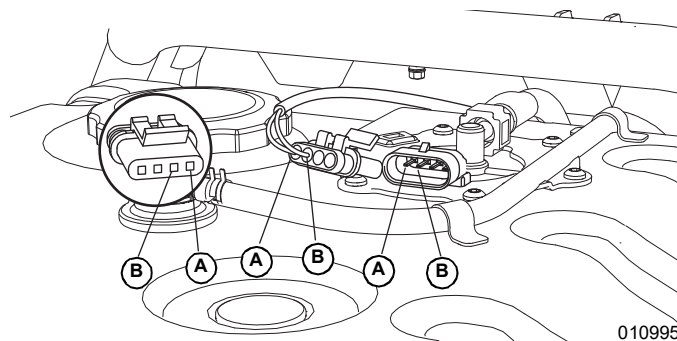

Figure 3-21. Fuel Pump Connector Test Points
3. See Figure 3-21. Reconnect the fuel pump harness connector and verify proper operation of the fuel pump circuit by back probing between the OG Wire (A) and the RD/WH (B) Wire at the fuel pump to monitor voltage. Set the KEY SWITCH to the ON position. Battery voltage should be measured.